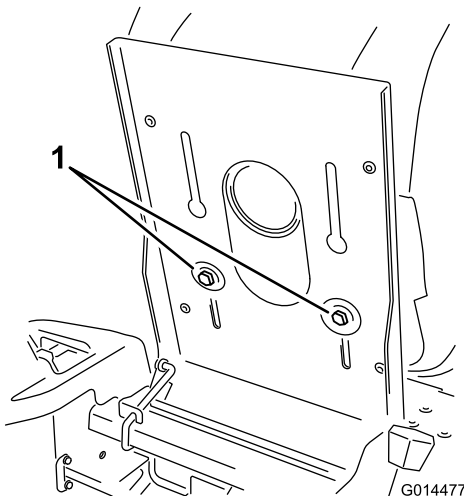

Figure 22
1. Raise the seat and loosen the adjustment bolts just enough that seat can move (Figure 22).